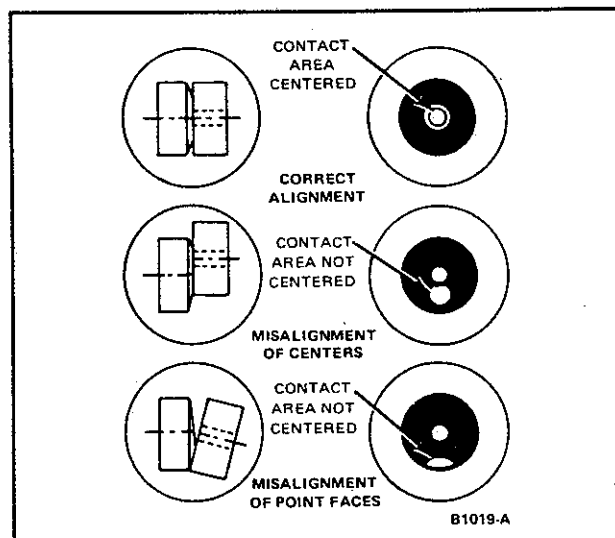

Figure 10 Checking Breaker Point Alignment
1. Turn the cam so that the breaker points are closed, then check the alignment of the points (Figure 10).